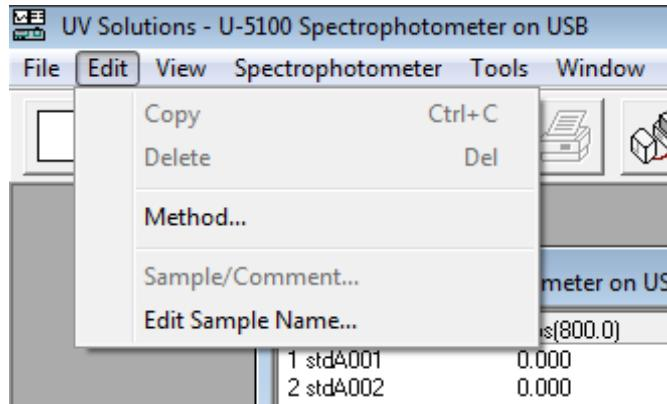

Fig. 4-56
- From the Edit menu, select the Edit Sample Name command as shown in Fig. 4-56.